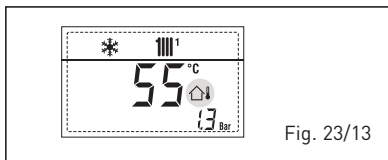

Fig. 23/13
- **SAFETY THERMOSTAT INTERVENTION FIRST MIXED ZONE “ALL 20” (fig. 23/14)**